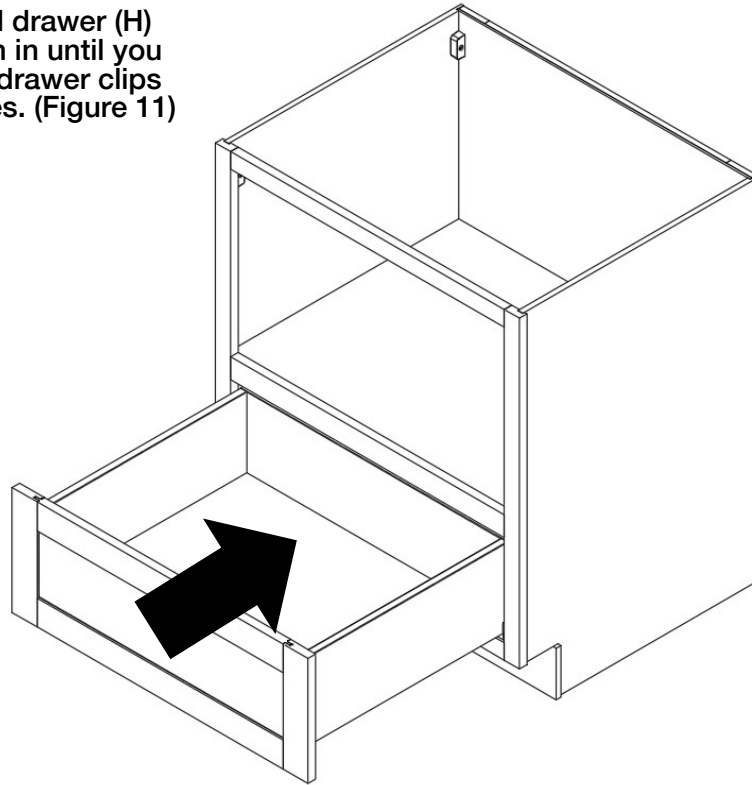

Figure 11
Insert the assembled drawer (H) onto the glides. Push in until you hear clicks from the drawer clips locking into the glides. (Figure 11)